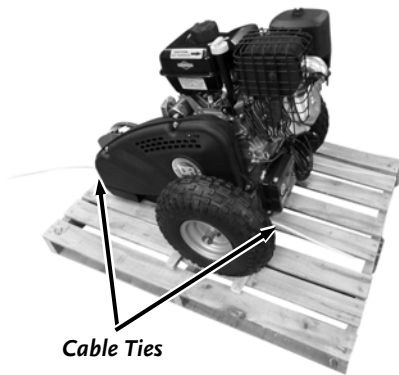

Figure 5
7. Cut the Cable Ties holding the Stump Grinder to the Pallet using Wire Cutters (**Figure 5**).